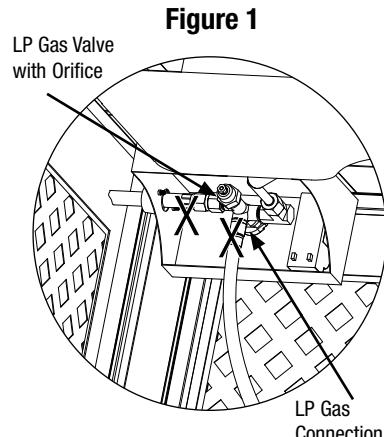

Figure 1
2. Please refer to diagram for proper installation. (Figures 1 and 2)
3. Spoon several drops of solution, or use squirt bottle, at all "X" locations (Figures 1 and 2).